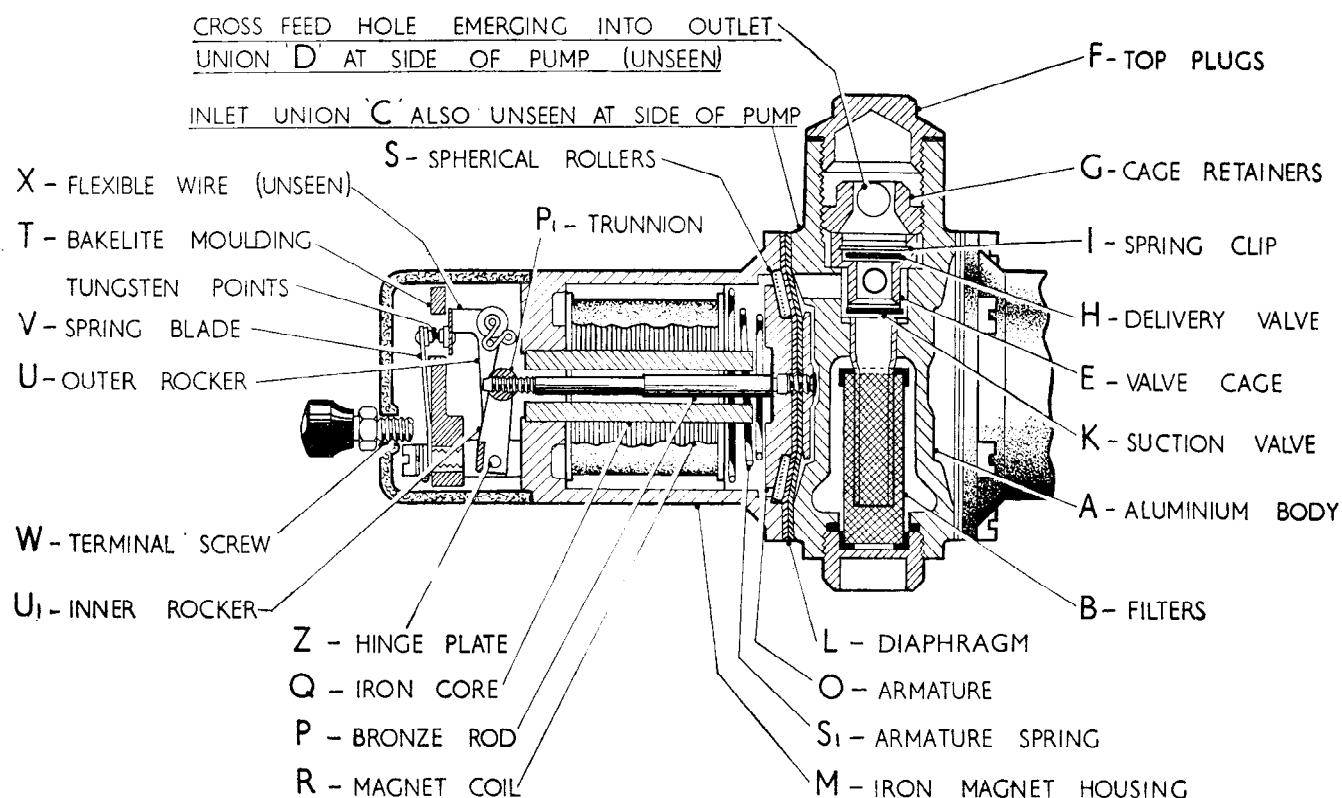

Fig. 2
A typical 'L' or 'HP' type pump in section. See Fig. 2 for 'Dual' type
In a 'Dual' type pump (see Fig. 2) twin filters (B) are held in the lower face of the casting. The inlet union (C) and the outlet union (D) are positioned at the side of the main casting. On the top of the body casting are twin hexagon-headed screwed plugs (F) giving access to the hollow screws (G) which retain the delivery valve cages (E). In the top of the cage is the delivery valve, positioned smooth side downwards and held in place by a spring clip (I), the suction valve (K) being a similar disc resting on the burnished end of an inserted brass tube.